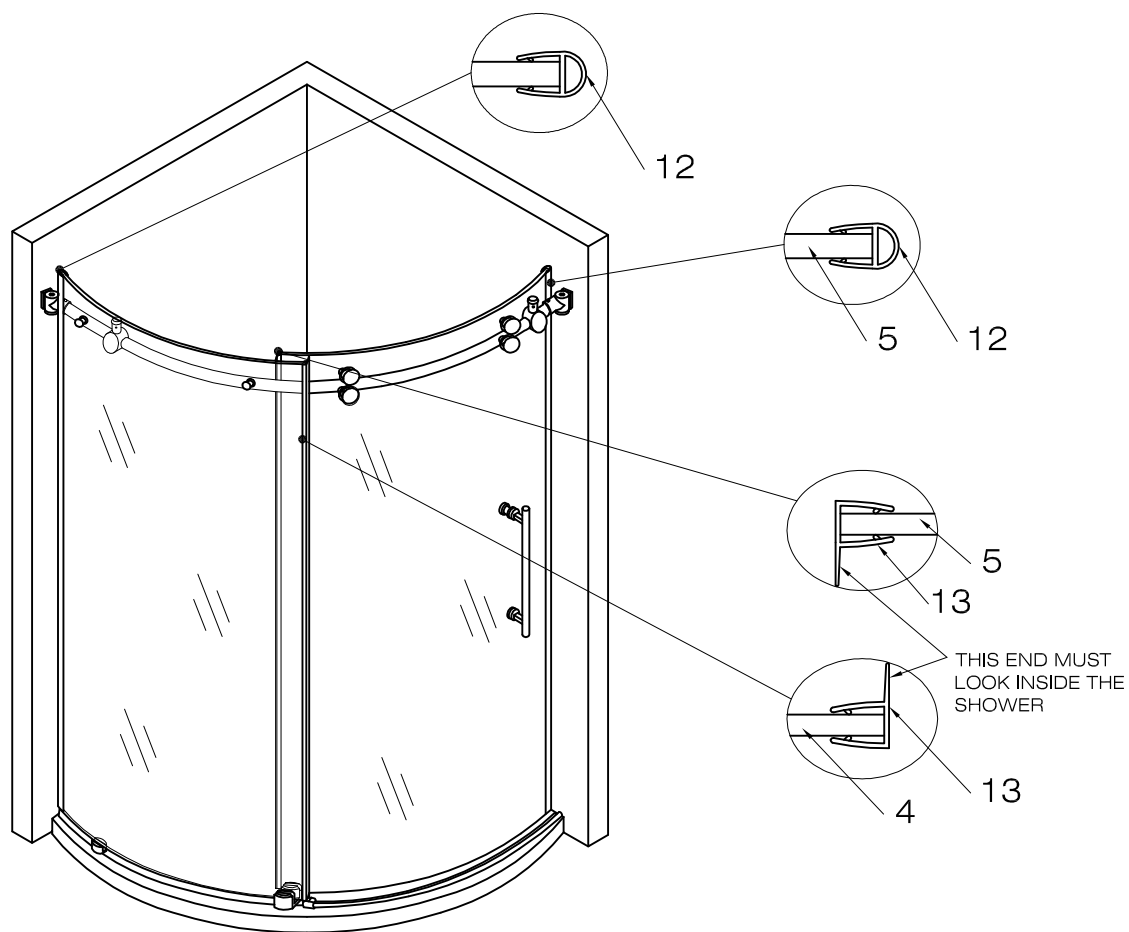

FIG.10
1. Place seal strip to the door and to the glass, see FIG. 10, page 8.